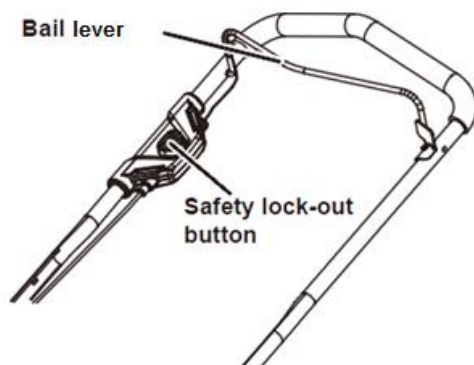

Fig. 3
- Press and hold the safety lock-out button (1). (**See Fig. 3**)
- Pull the bail lever (2) upward to the handle to start the mower and release the button.
- Release the bail lever as shown in Fig. 3.